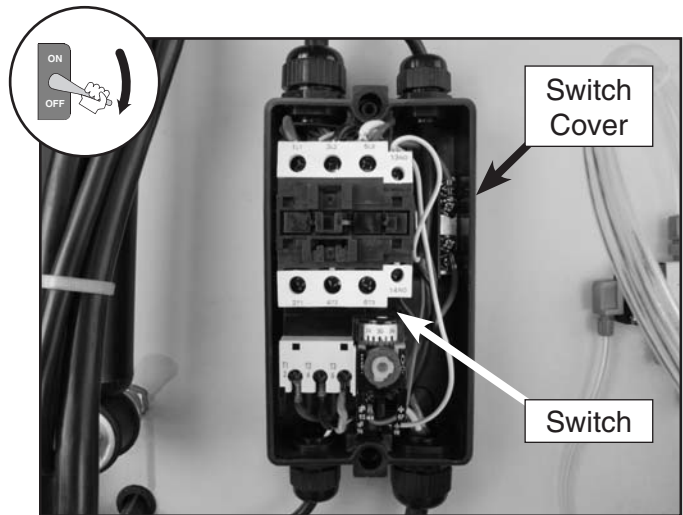

Figure 53. Magnetic switch inside the switch box.
3. Remove the 220V magnetic switch from inside the switch box (**Figure 53**) and replace it with the 440V conversion switch.